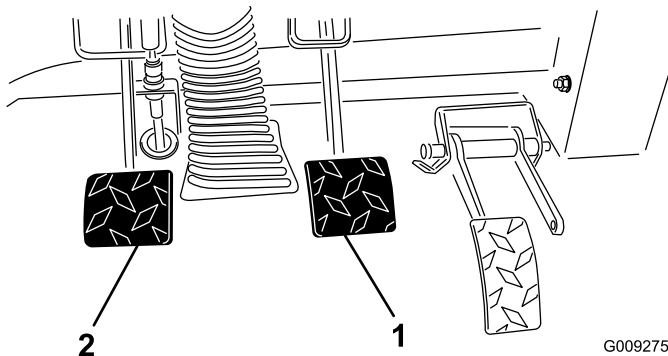

Figure 50
2. Lift up on brake pedal (Figure 50) until it contacts frame.